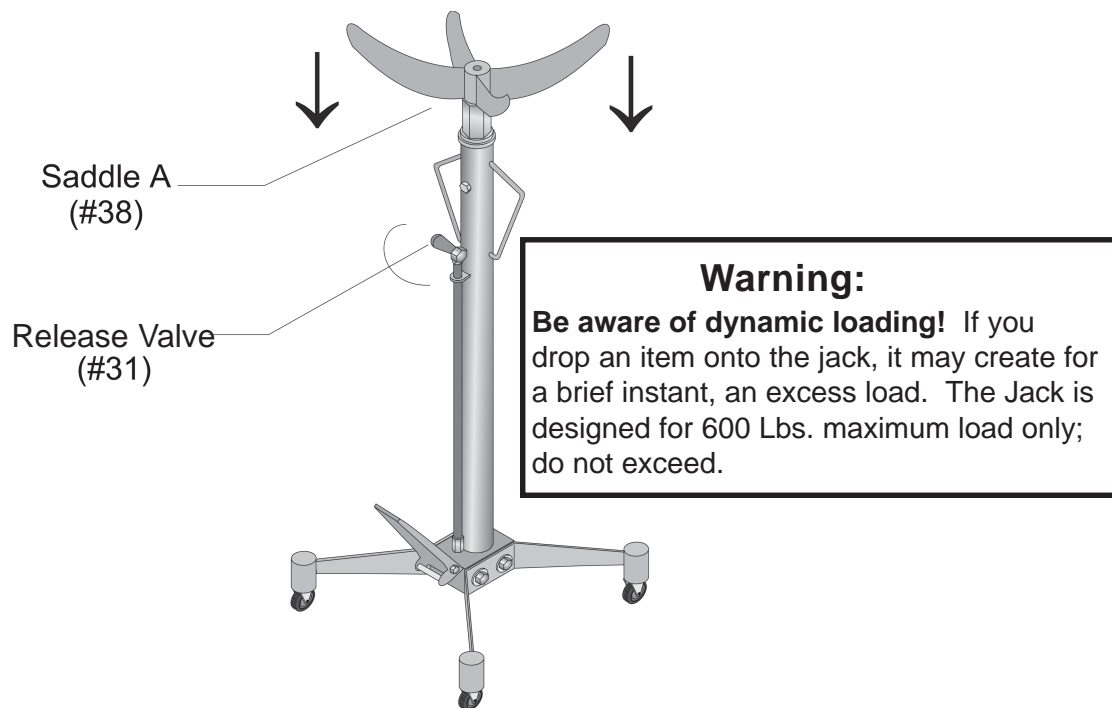

Figure 6--Lowering the Saddle
- Step 8: To lower the differential, turn the RELEASE VALVE counterclockwise **slowly** as shown in Figure 6. Do not lower the differential in one quick drop as you may upset the balance of the differential within the SADDLE A.